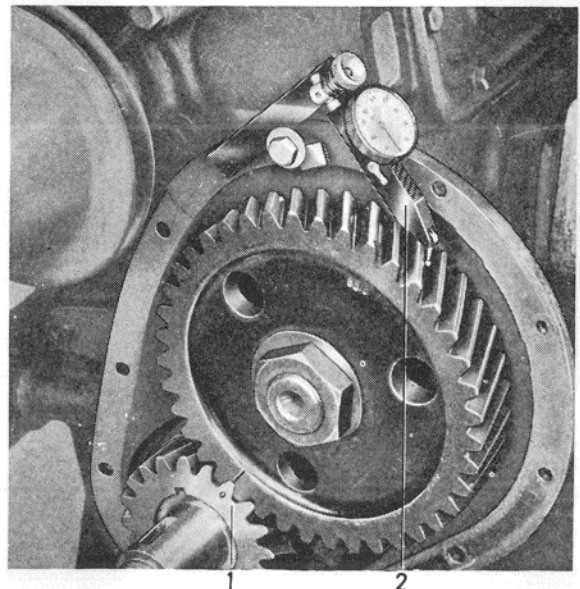
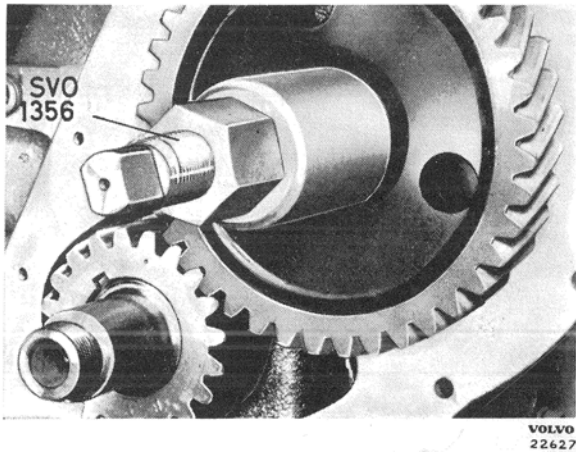

Fig. 24. Measuring backlash.
Fig. 25. Fitting the camshaft gear.
4. Remove the timing gear casing. Check the gear markings and backlash, see Fig. 24. See the specifications for the values concerned. If it is only necessary to replace the camshaft gear, it is not necessary to lift out the camshaft. Loosen the lock washers and nuts and then pull off the gear with tool SVO 2250. Fit the new gear by using tool SVO 1356, see Fig. 25.